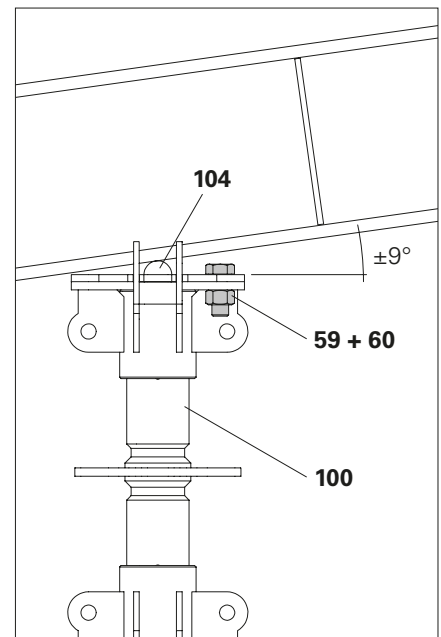

Fig. A1.36a
- Nut ISO 4032 M24-8 (**60**) below the Spindle ATS 360-550 Head Plate. (Fig. A1.36a)